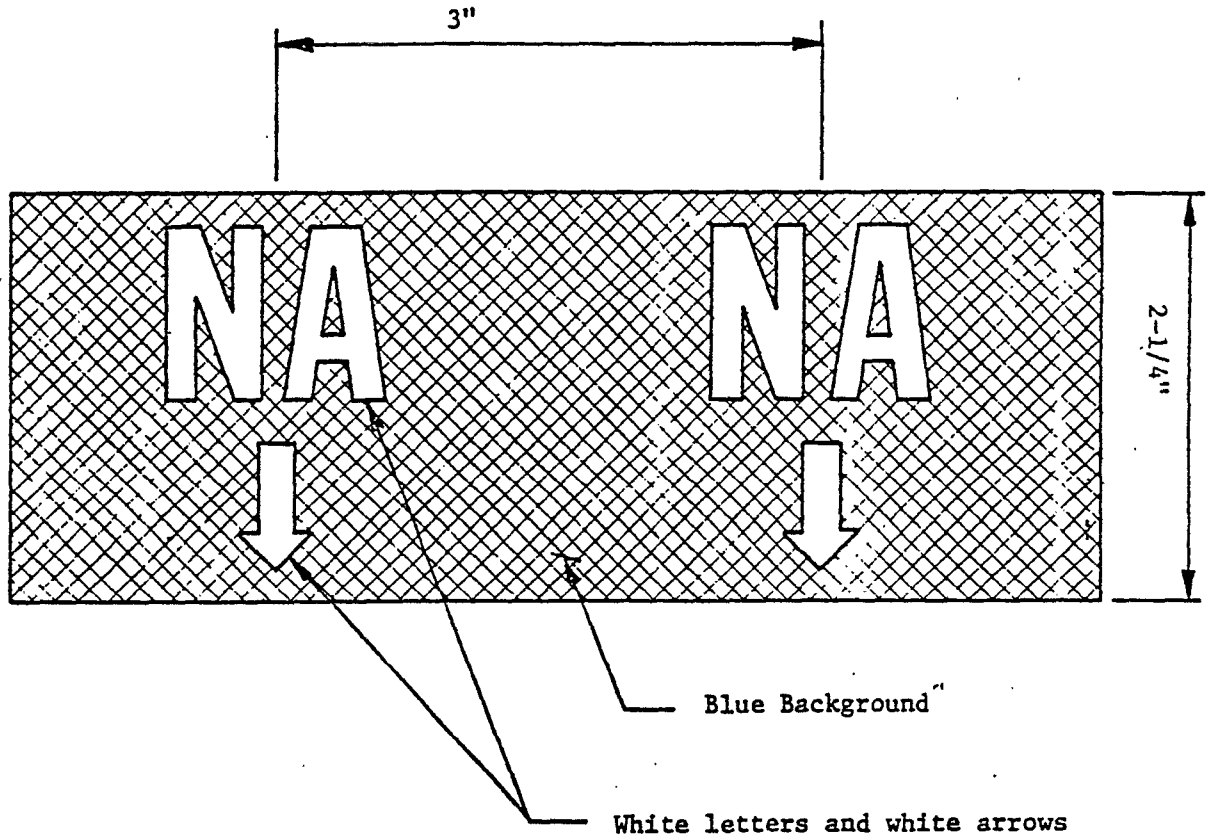

FIGURE 1 -- TAPE FOR IDENTIFICATION
5.1 Specifications (See Figure 1).